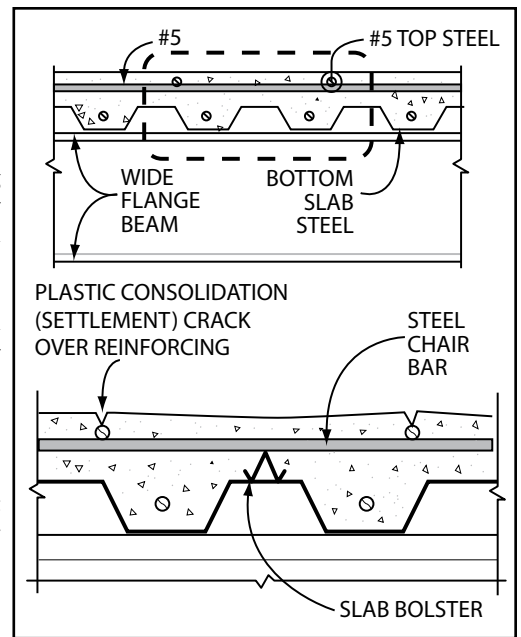

Figure 1.
- Sloughing: As concrete volume changes through water loss and consolidation of the constituent parts of concrete, more rigid elements, such as normal reinforcement, provide a resistance to the consolidation and shrinkage, resulting in the formation of cracks. (Figure 1)